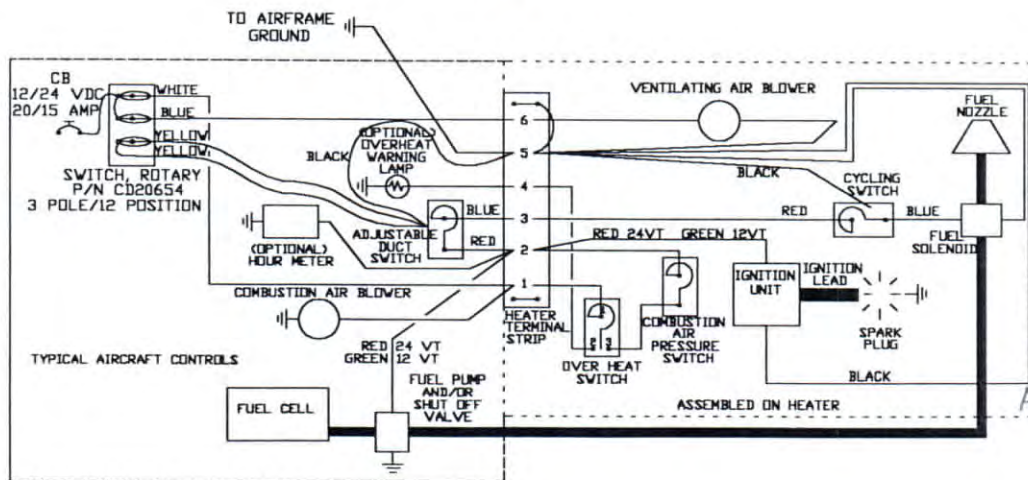

FIGURE 5
11. Electrical connections: Figure 5